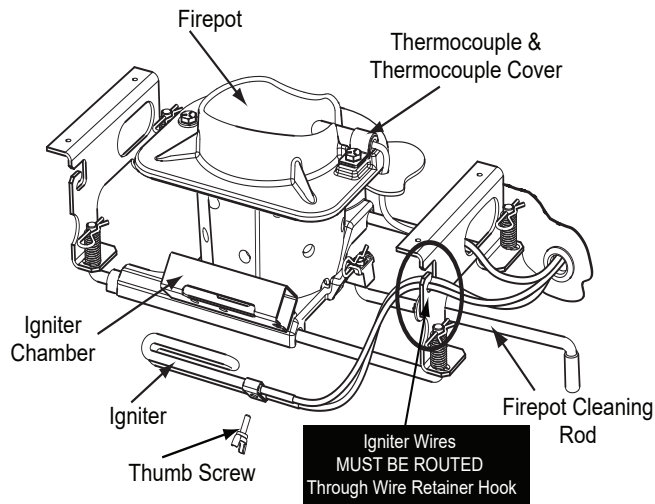

Figure 26.1
5. Install new igniter into the chamber and tighten thumb screw. The wires MUST route through the wire retainer hook and then re-connect the wires to the 2 leads with the spade connectors **(Figure 26.1)**.